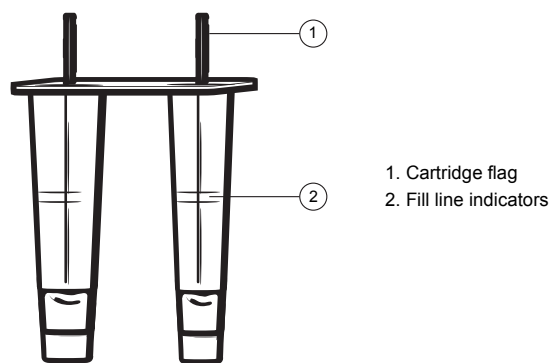

Figure 1. Filling the Cartridge
6. Fill each cartridge channel (Figure 1) with the appropriate sample volume. Refer to Table 2.